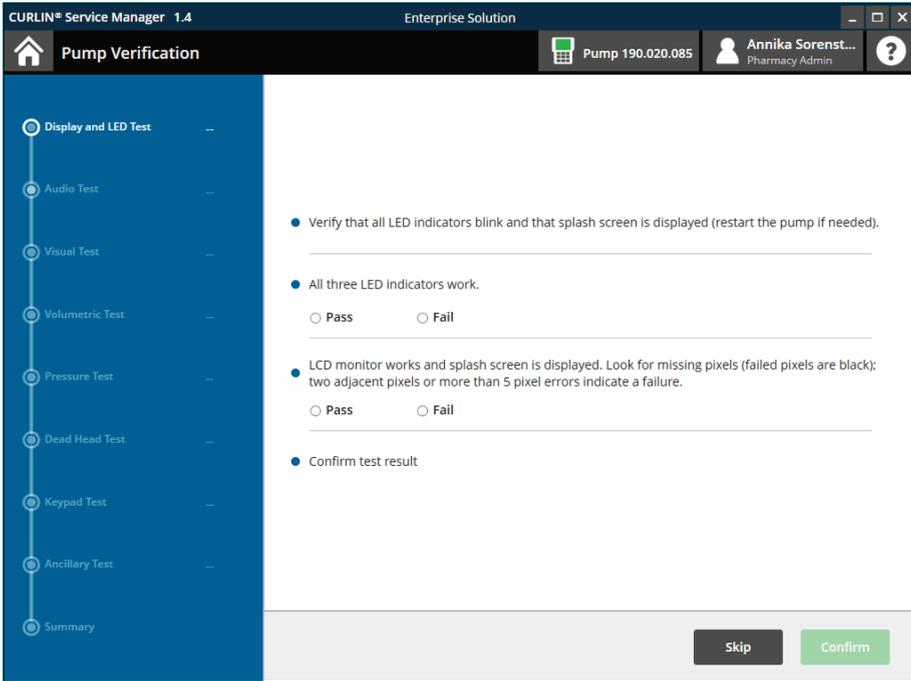

Figure 4-2: Display and LED Test Screen
4. Open the Service Manager ES software. The Pump Verification screen appears (Figure 4-2).
This test verifies the functionality of the LCD display and the three infusion status indicator lights: green, yellow and red (Figure 4-2).